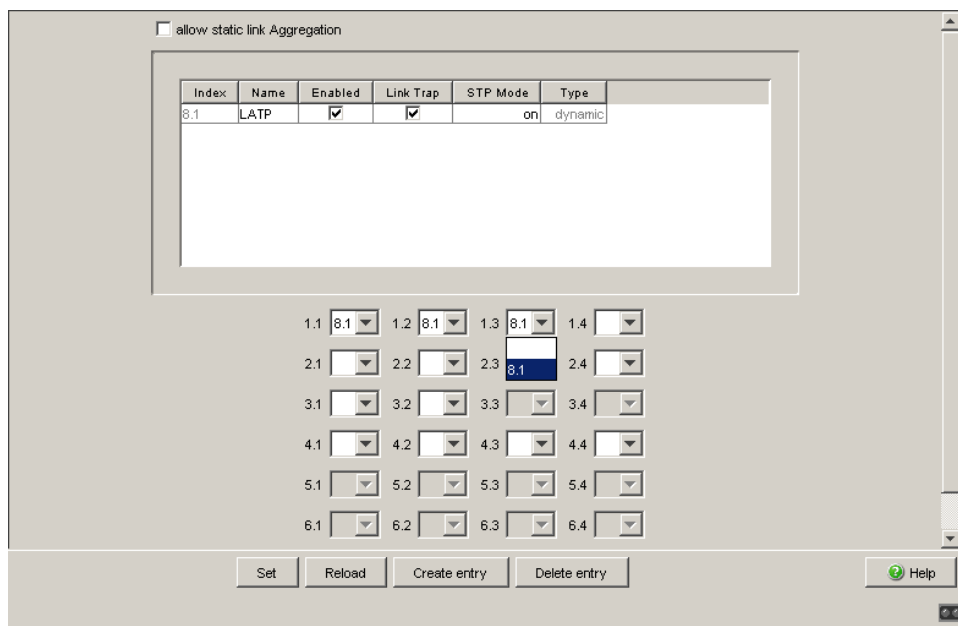

Figure 5: Assigning ports to link aggregation
- Now assign to the ports participating in the link aggregation (ports 1.1, 1.2 and 1.3) the index of the link aggregation connection LAPT (8.1). (see figure 5).